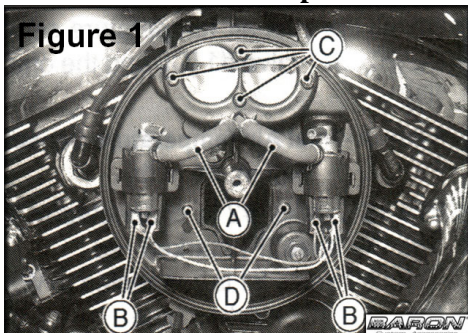
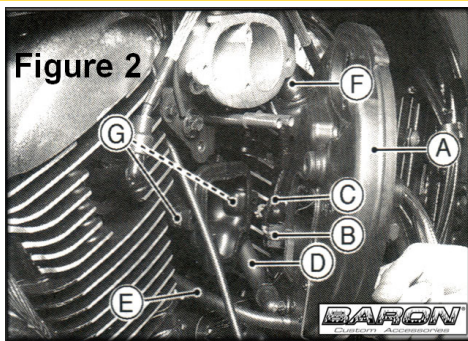

Figure 1
Figure 2
- *Remove hoses from the two valves where they come into the backing plate. (A on Fig. 1)
- *Remove screws holding backing plate to the cross-over tube. (D on Fig. 1)
- *Remove crankcase vent from rear of the backing plate. (D on Fig 2)
- *Disconnect electrical connection to the valves. (B on Fig 1 and C on Fig 2)
- *Remove Inlet Air Temperature Sensor from backing plate. (B on Fig 2)